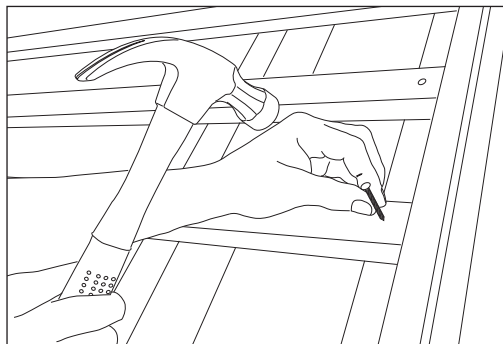

Fig 5 Nailing verge units
- 6 Secure the verge extrusion by driving the annular ring shank nails provided through each tiling batten (40mm from the end) into the extrusion (Fig 5).